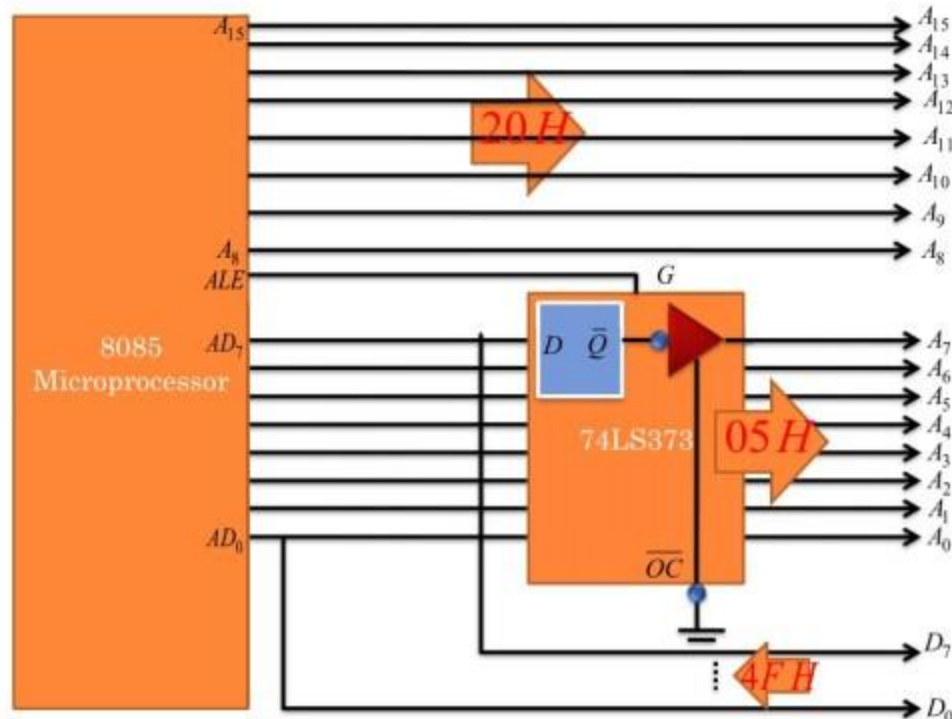

Fig.14 Demultiplexing of AD0-AD7 using IC 74LS373
The high order address is placed on the address bus and hold for 3 clk periods, the low order address is lost after the first clk period, this address needs to be holding however we need to use latch. The address AD7 –AD0 is connected as inputs to the latch 74LS373. The ALE signal is connected to the enable (G) pin of the latch and the OC –Output control –of the latch is grounded which you can see in the given fig.14.